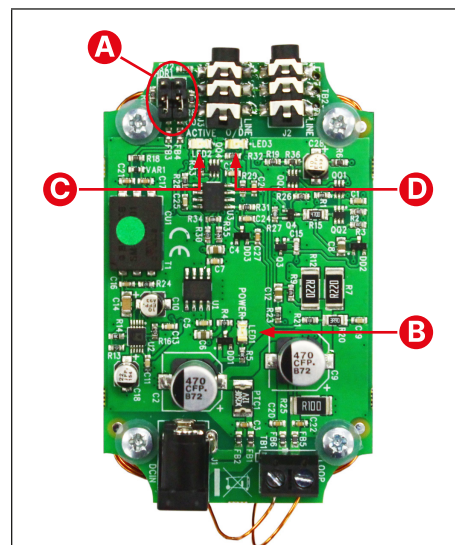

Fig. 31
The induction loop, **Fig.31**, has been designed to be left unattended once it has been correctly installed and powered **ON**. It is important that the induction loop module is powered by a separate 12Vdc, 3A (min.) power supply.
ⓘ IMPORTANT NOTE: Before powering up the induction loop for the first time please ensure that the HDR1 drive jumpers are set in the OPEN (lower) position as shown in **Fig.2 (A)** and **Fig.4 (A)** on page 4, also the wiring diagram **Fig.5** on page 5 and **Fig.31 (A)**. When the induction loop module is packaged for distribution these are set to the CLOSED position (covering the pins) for protection during carriage.
LED1 - POWER indicator: **Fig.31 (B)**, if this LED is constantly **ON (red)** then this indicates there is 12Vdc power to the induction loop.
LED2 - ACTIVE indicator: **Fig.31 (C)**, if the induction loop is being driven correctly then this LED will illuminate (**green**) to indicate that a steady signal is passing through.
LED3 - OVERDRIVE: **Fig.31 (D)**, if the audio signal level increases through the induction loop this LED will start to illuminate (**red**) and get brighter in intensity. If it shows a continuous red then the drive level is too high and audio distortion will occur.